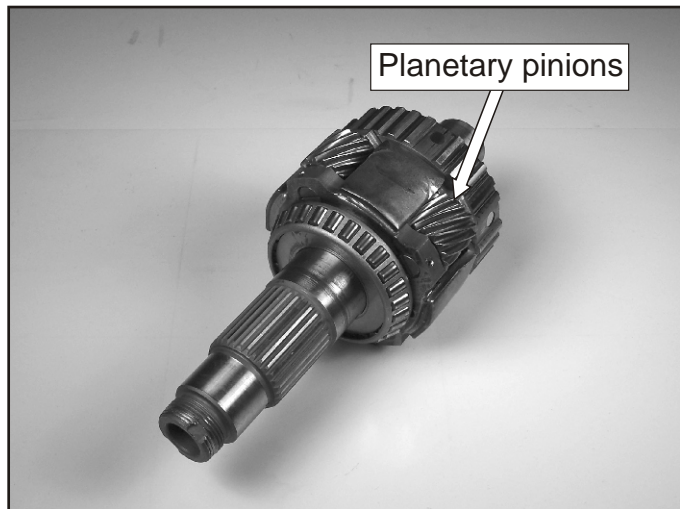

Figure 161
- 106. Inspect the C3 underdrive planetary pinions and check the planetary washers for wear, replace as necessary. See Figure 161.